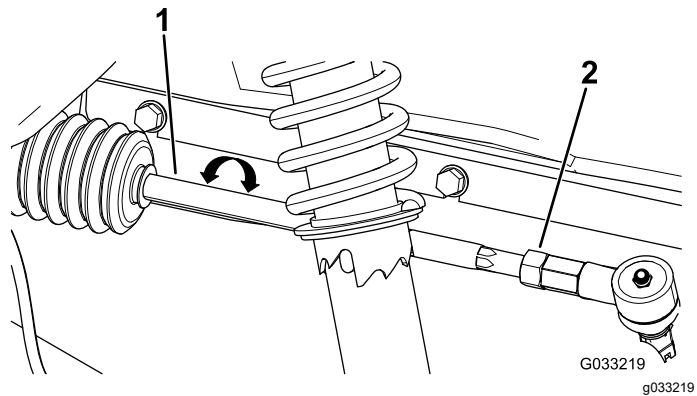

Figure 47
- If the measurement does not fall within 0 to +/- 3 mm (0 to +/- 1/8 inch), loosen the jam nuts at the outer end of the tie rods (Figure 47).